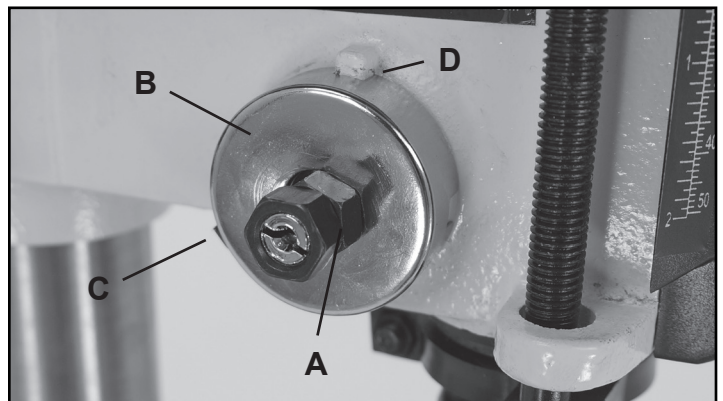

FIG. 10
10. **SPINDLE RETURN SPRING:** The Chuck will automatically return upward to its original starting position when the operating handle is released. The Return Spring Mechanism, FIG. 10, has been preset at the factory and should not require any adjustments. However, should the spring tension decline and need adjustment, follow these steps;
- B. Loosen the 2 Spring Cover Nuts (A), but DO NOT REMOVE the nuts from the threaded pin.
- C. Carefully pull out the Spring Cover (B) slightly, and keep a firm grasp on it - DO NOT LET THE COVER SPIN as it keeps the spring from unwinding. Also, DO NOT let the spring end (C) disengage from its notch in the cover!
- D. Pull out the cover just enough so that the notch in the cover clears the nub on the head casting (D).